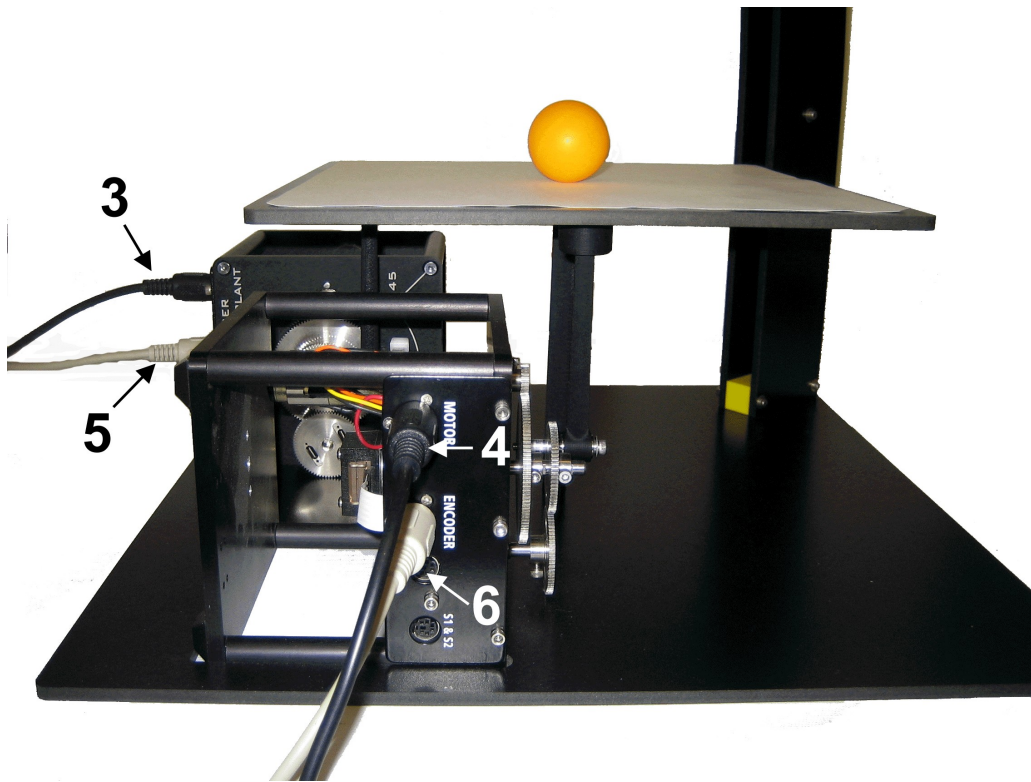
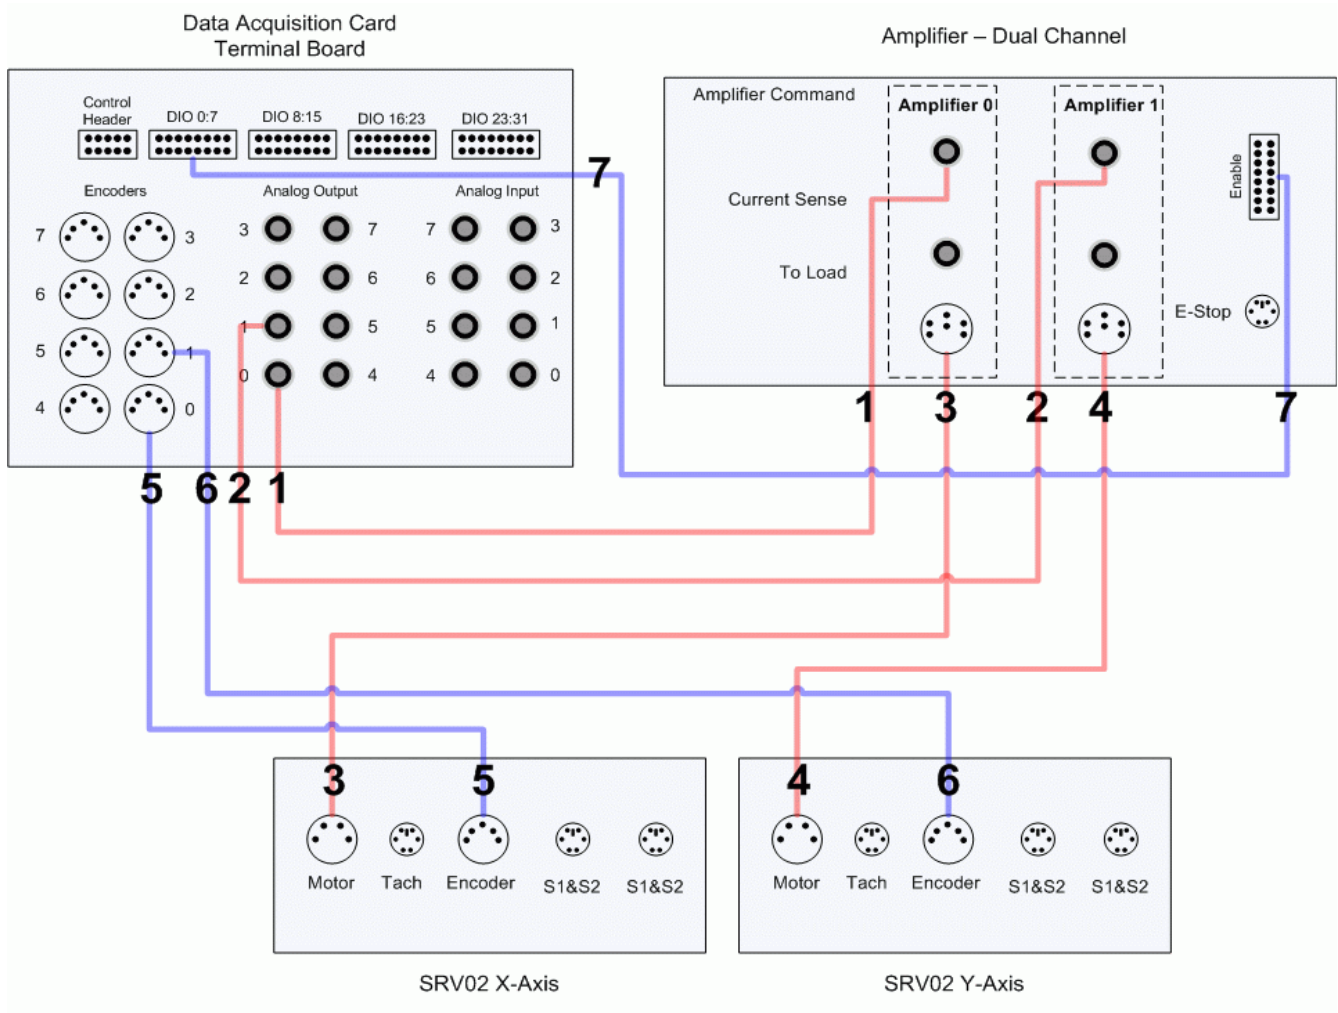

Figure 20: 2DBB SRV02 connections.
Figure 21: 2 DOF Ball Balancer connection diagram
3. Connect the 2xRCA to 2xRCA cable from the *Analog Output Channel #0* on the terminal board to the *Amplifier Command* connector on the power amplifier that will be connected to the *x*-axis SRV02. See cable #1 shown in Figure 21. This carries the attenuated SRV02 *x*-axis motor voltage control signal, $V_{m,x}/K_{a,x}$, where $K_{a,x}$ is the X amplifier gain.
4. Connect the 2xRCA to 2xRCA cable from the *Analog Output Channel #1* on the terminal board to the *Amplifier Command* Connector on the power amplifier that will be connected to the *y*-axis SRV02. See cable #2 shown in Figure 21. This carries the attenuated SRV02 *y*-axis motor voltage control signal, $V_{m,y}/K_{a,y}$, where $K_{a,y}$ is the Y amplifier gain.
5. Connect the 4-pin-stereo-DIN to 6-pin-stereo-DIN from *To Load 0* on the amplifier to the *Motor* connector on the SRV02. See connection #3 shown in Figure 20 and Figure 21. The cable transmits the amplified voltage that is applied to the *x*-axis SRV02 motor and is denoted $V_{m,x}$.
6. Connect the 4-pin-stereo-DIN to 6-pin-stereo-DIN from *To Load 1* on the amplifier to the *Motor* connector on the SRV02. See connection #4 shown in Figure 20 and Figure 21. The cable transmits the amplified voltage that is applied to the *y*-axis SRV02 motor and is denoted $V_{m,y}$.
7. Connect the 5-pin-stereo-DIN to 5-pin-stereo-DIN cable from the *Encoder* connector on the *x*-axis SRV02 panel to *Encoder Input # 0* on the terminal board, as depicted by connection #5 in Figure 20 and Figure 21. This carries the *x*-axis load shaft angle measurement and is denoted by the variable $\theta_{l,x}$.
8. Connect the 5-pin-stereo-DIN to 5-pin-stereo-DIN cable from the *Encoder* connector on the *y*-axis SRV02 panel to *Encoder Input # 1* on the terminal board, as depicted by connection #6 in Figure 20 and Figure 21. This carries the *y*-axis load shaft angle measurement and is denoted by the variable $\theta_{l,y}$.
5. Connect the 5-pin-stereo-DIN to 5-pin-stereo-DIN cable from the *Encoder* connector on the x-axis SRV02 panel to *ENCODER 0* on the Q3 board, as depicted by connection #3 in Figure 20. This carries the x-axis load shaft angle measurement and is denoted by the variable $\theta_{1,x}$.